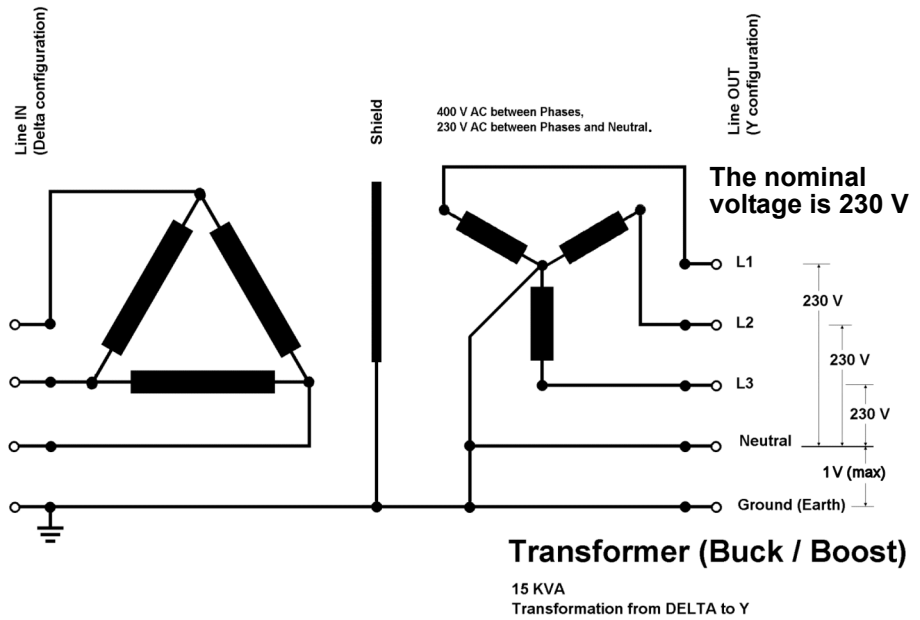

Figure 4-1. Delta-to-Y conversion
- Three phases, 5-wire system in Y configuration (neutral wire connected to earth). For further information, refer to Figure 4-1 on page 4-8.
In addition, the voltage between ground and neutral should not exceed 1 Volt (see Figure 4-1 on page 4-8).